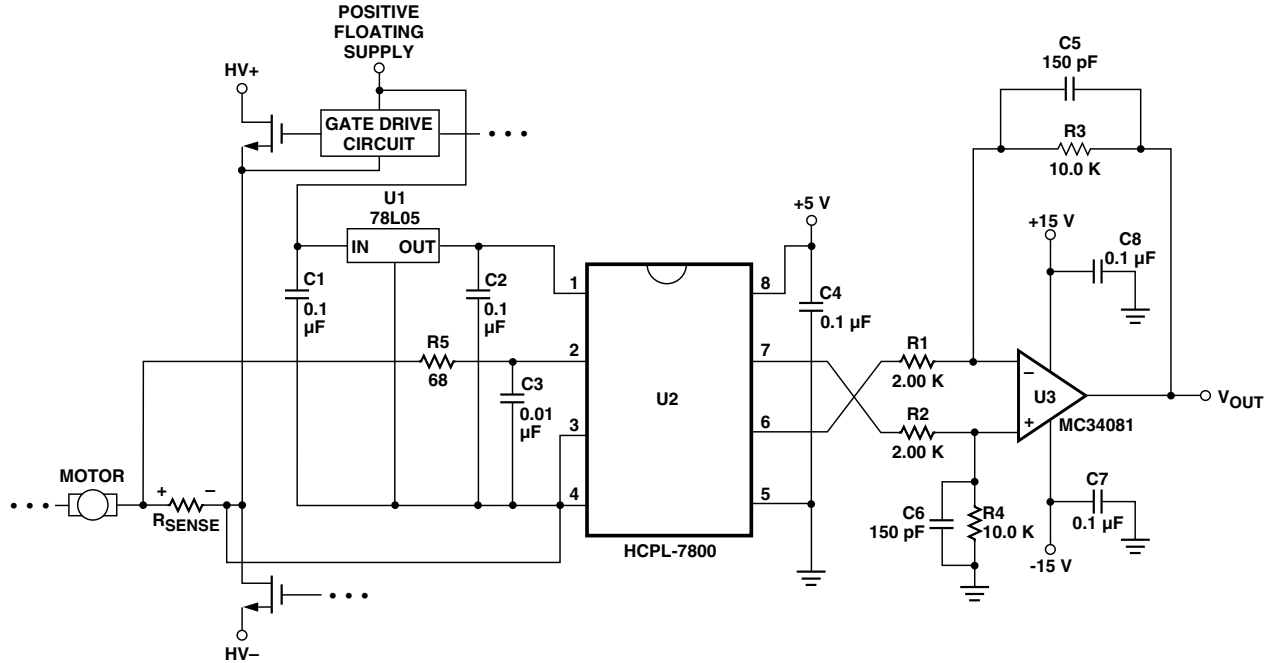

Figure 18: Recommended Application Circuit.
As shown in Figure 18, 0.1 μF bypass capacitors (C1, C2) should be located as close as possible to the pins of the HCPL-7800(A). The bypass capacitors are required because of the high-speed digital nature of the signals inside the
The recommended method for connecting the HCPL-7800(A) to the current sensing resistor is shown in Figure 18. V_{IN+} (pin 2 of the HCPL-7800(A)) is connected to the positive terminal of the sense resistor, while V_{IN-} (pin 3) is shorted to GND1 (pin 4), with the power-